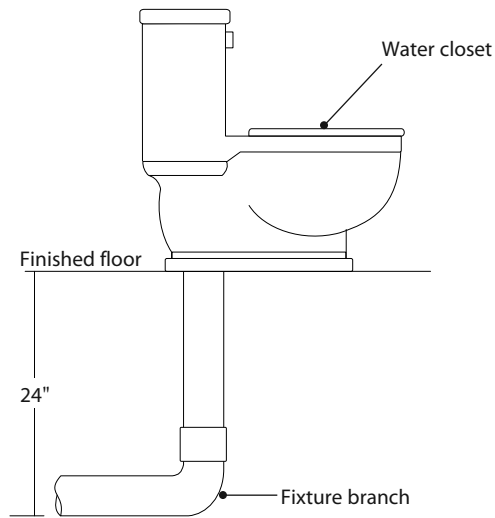

Figure 4-12
■ The vertical drop of the pipe serving floor-connected fixtures with integral traps (water closets, floor mounted urinals and similar fixtures) can't exceed 24 inches. See Figure 4-12.